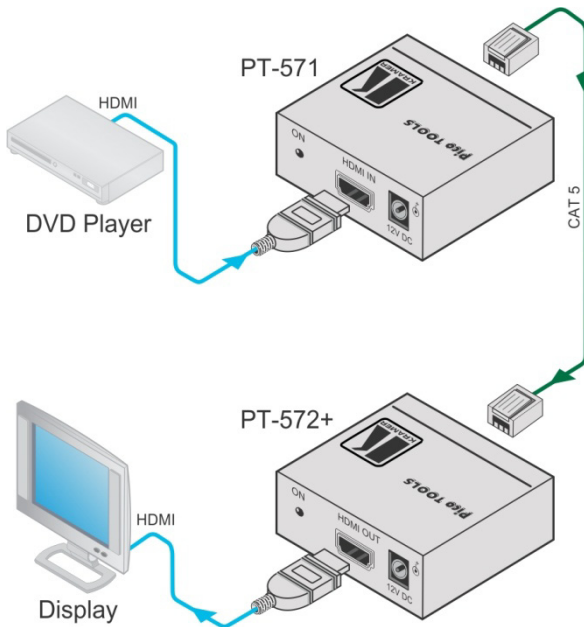

Figure 3: Connecting the PT-571/PT-572+ Transmitter/Receiver Pair
To connect the **PT-571** to the **PT-572+**, as illustrated in the example in Figure 3, do the following:
- 4. Connect the 12V DC power adapter to the power socket on the **PT-571** and/or the **PT-572+** and connect the adapter to the mains electricity (not shown in Figure 3).